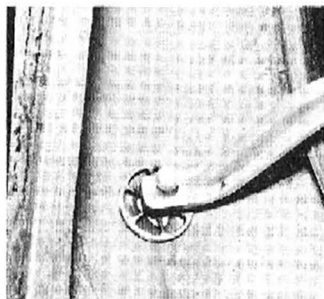

Fig. 73—Hot Patch Clamp Installed
- a. Remove backing from patch and carefully center patch over injury. Place clamp over patch and tighten only finger tight (fig. 73).